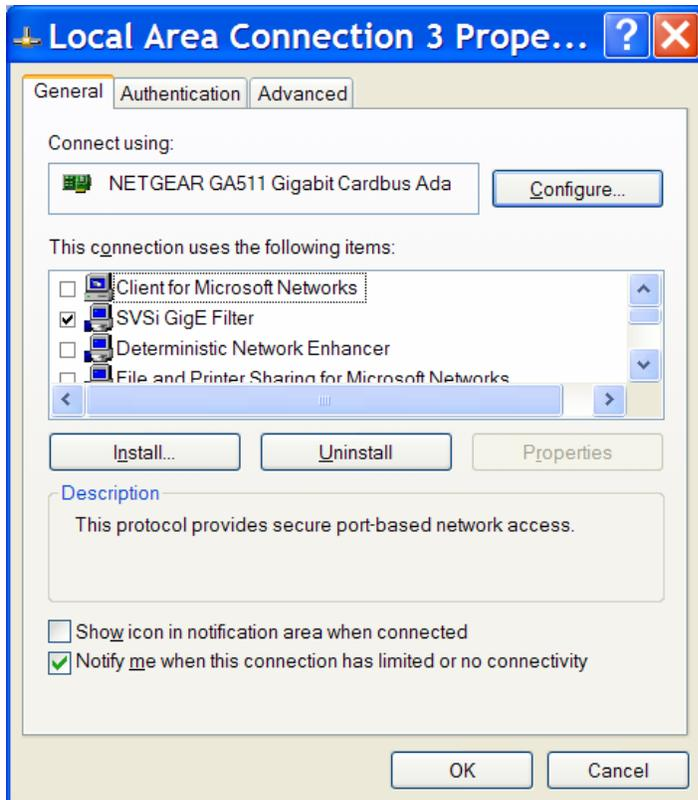

Figure 8 Optimize performance by disabling network connection settings.
3. Disable all other network settings (e.g.-Quality of Service, Client for Microsoft Networks, File and Printer Sharing, ...) as in Figure 8 below. Only the SVSi filter driver and TCP/IP options should be selected.